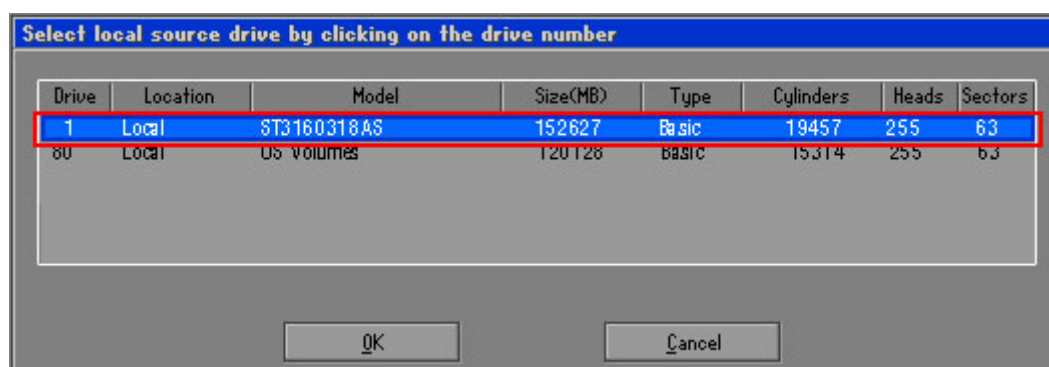

Figure A-14: Select a Local Source Drive
Step 5: Select the local source drive (Drive 1) as shown in **Figure A-14**. Then click OK.